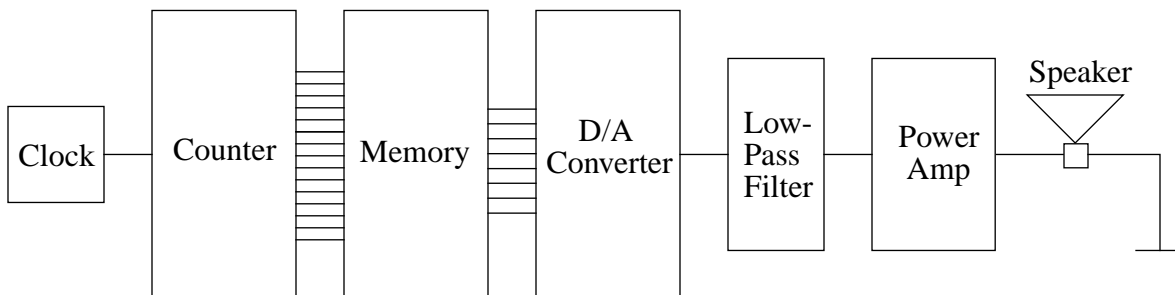

Figure 1: block diagram of the audio playback system.
A block diagram of the audio playback system is shown in Figure 1. At the center of the system is a digital memory in which 32,768 samples of the audio signal are stored. Each sample in the memory has a unique numerical address between 0 and 32,767, inclusive. Consecutive samples are stored at consecutive addresses.
In the course of this homework assignment you will analyze and design four of the functional blocks shown in Figure 1. These blocks are the clock, the digital-to-analog converter, the low-pass filter and the power amplifier. In Lab #4, you will construct these blocks and verify that they perform as desired. Then, you will combine them with the counter, the read-only memory and the speaker to construct and demonstrate the entire audio play-back system. Since you will construct the system from the components in your 6.002 lab kit, your design of the blocks must account for the fact that the available components are limited.
- (E) For the choice of  $R$  and  $C$  from Part (D), sketch and clearly label a single graph that displays  $v_{CAP}$ ,  $v_{OSC}$  and  $v_{CLK}$  as a function of time over one period of oscillation.
**ANSWER:** The graph is shown in Figure 4. Using the equations from Parts (A) and (B),  $T_1 = 59.6$   $\mu$ s and  $T_2 = 64.8$   $\mu$ s. These times are included in Figure 4. Notice that  $T_1 \neq T_2$ . This does not affect the operation of the counter because the counter in Figure 1 is triggered only by either the rising or the falling edge of  $v_{CLK}$ , but not both.